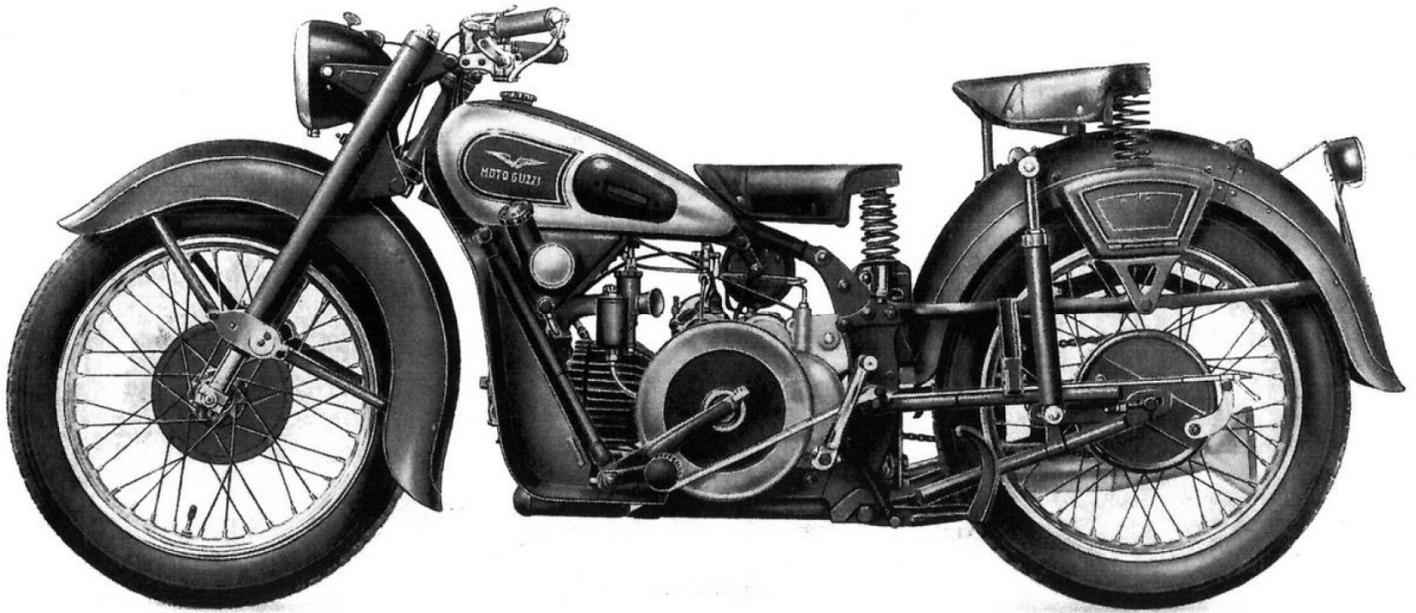

Fig. 3 - Motorcycle GTV two seater – flywheel side
- Figure 3- G.T.V. Motorcycle two-seat version (flywheel side)